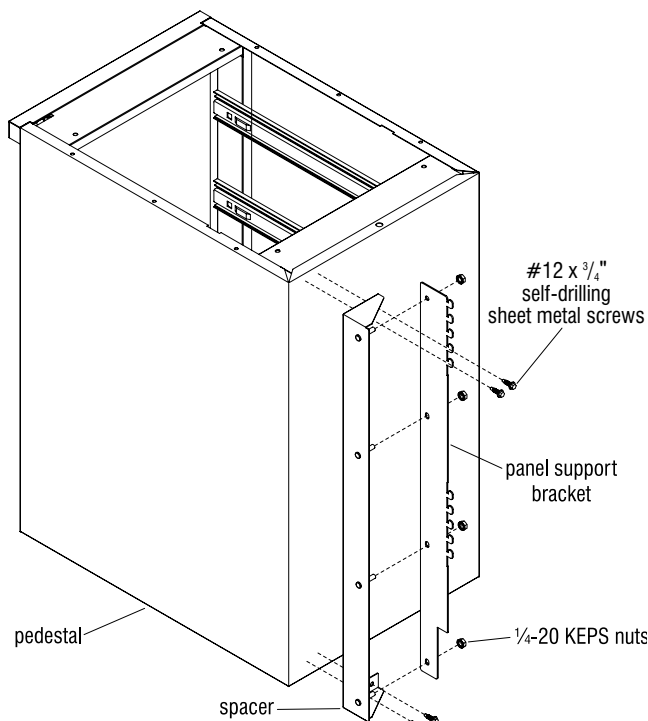

Figure 24
1. Position the spacer along the top and side edge of the pedestal as shown (Figure 24).
2. Properly align the spacer to the top and side of the pedestal and use four #12 x 3/4 inch self-drilling sheet metal screws to secure the spacer to the cabinet (Figure 24).
3. Position the teeth of the panel support bracket face-up and slide the support bracket to the threaded studs on the spacer. Use four 1/4-20 KEPS nuts provided to secure bracket to spacer (Figure 24).